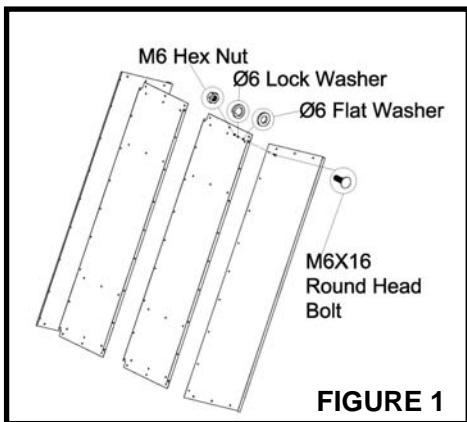

FIGURE 1
3. Assemble the cart bed side body and bottom body with Round Head Bolt M6x16, Flat Washer Ø6, Lock Washer Ø6 and Hex Nut M6. See **Figure 1**.